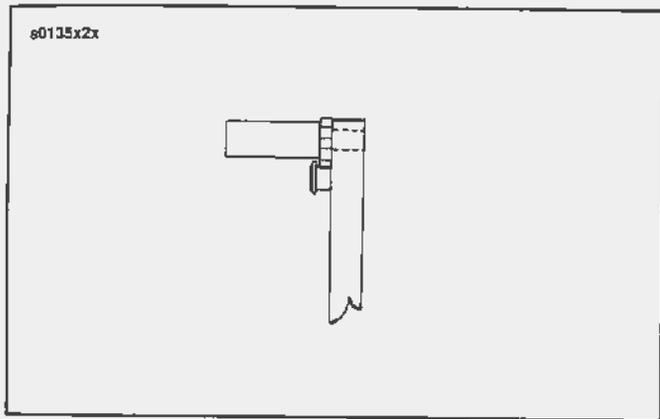

Figure 2-50. Threaded Bushing/Rivet Engagement
See Figure 2-50. The threaded bushing's flange must go UNDER the rivet head during assembly. At the same time, one of the U-shaped notches on the outer edge of the bushing flange must engage the rivet body. If the bushing is not positioned properly the rivet will be damaged when the mounting bolts are tightened.
3. See Figure 2-50. Place a flat washer (3) on upper mounting bolt (1), then insert the bolt through the fork lug, and the mounting plate (7). Thread the bolt into the threaded bushing (4).
4. Insert the lower mounting pin (2) through the caliper and the fork lug. Thread it into the tapped hole at the lower end of mounting plate (7). Tighten lower mounting pin to 25-30 ft-lbs (34-41 Nm).
5. Tighten upper mounting bolt (1) to 25-30 ft-lbs (34-41 Nm).
1. See Figure 2-50. Remove retainer screw (15), pad retainer (14) and inside pad (9).
2. Remove the outer pad (9), mounting plate (7 or 7A) and spring clip (8) as an assembly. Remove pad (9) from mounting plate (7) by pushing the pad free of the spring clip (8).
3. Pry out the retaining wire (13) by inserting a small screwdriver into the notched groove at the bottom of the piston bore.
1. See Figure 2-50. Apply a thin coating of GE Silicone Versilube grease (G322L) to the exterior surfaces of seal (10) and O-rings (6) in their respective grooves. Lightly coat the cavity of pin boot (5) with Dow Corning 44 grease. Insert the flanged end of pin boot (5) into the internal groove of the threaded bushing bore.
2. Push the piston dust boot (12), with the open side downward, over the top of the piston. Push downward on the boot until the inner lip seats in the groove at the top of the piston.
3. Coat the outside diameter and bottom chamfer of piston (11) with GE Silicone Versilube grease (G322L) and push the piston with dust boot into the piston bore. If necessary, press the piston in with a "C" clamp.
9. See Figure 2-50. Take the pad (9) that has the insulator backing, and place it on top of the spring clip with the lower end of the pad slightly entering the opening of the mounting plate. With the pad centered within the mounting plate and the insulated back facing downward, push down on the pad until it is against the flat surface and is held firmly by spring tension from the spring clip.
10. Insert the outer pad (9), mounting plate (7) and spring clip (8) assembly into place with the backside of the pad against the face of the piston.